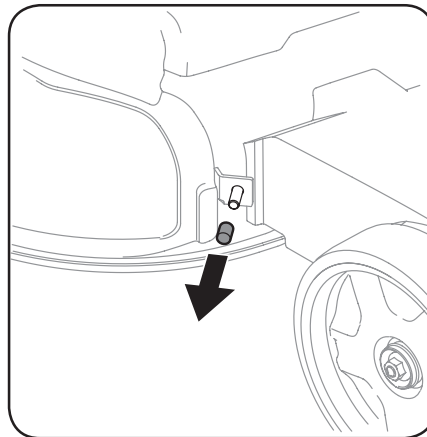

Figure 2-9
1. Remove the vinyl cap on the deck stud in front of the discharge opening. See Figure 2-9.